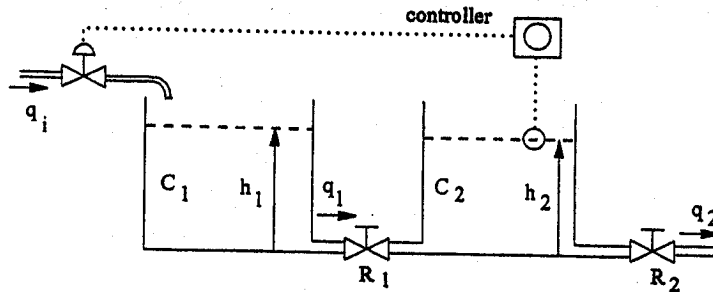

Figure 1 Two tank system
- (ii) Using the usual modelling assumptions, determine the state space matrix model for the two tank liquid level control system (Figure 1) when it is operated in open loop mode (i.e. input is q_i and no feedback).